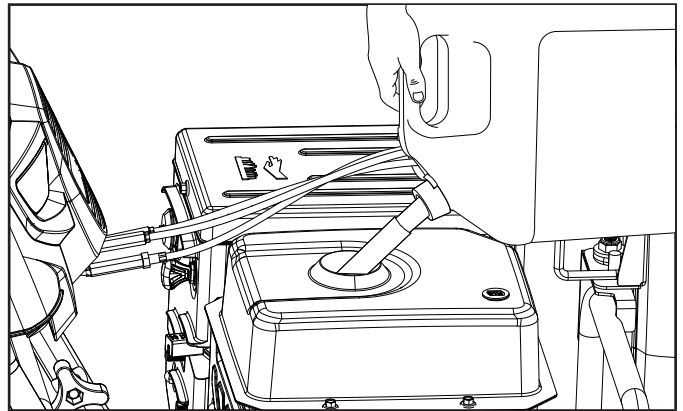

Figure 8
- Add fuel to the bottom of the fuel level limit in the neck of the fuel tank. Do not overfill. Wipe up spilled fuel before starting the snowblower. Fuel tank capacity: 1.5 gal. (5.8 L) (Fig. 8).